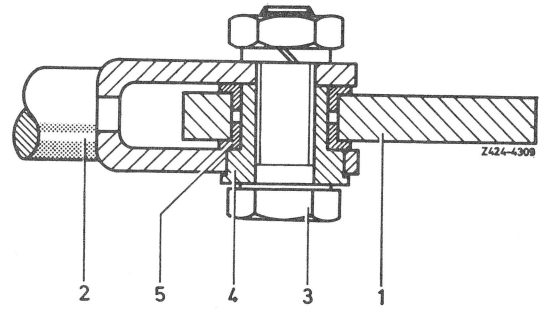

Fig. 7
10 Attach thrust rod (2) of brake unit with bushing (4) and hex. bolt (3) to brake pedal (1) (Fig. 7).